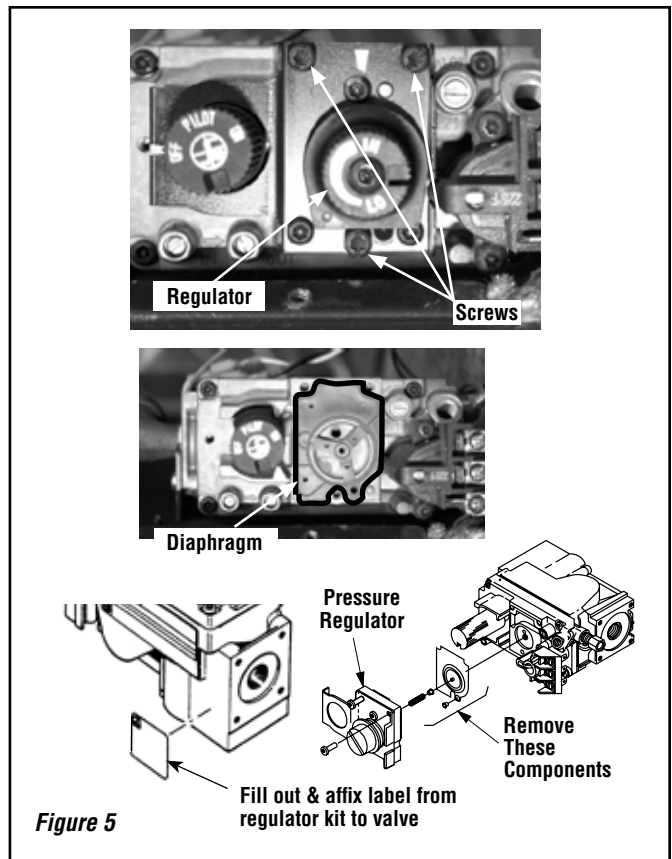

Figure 5
Step 3. Using a T20 Torx Bit or flat screwdriver, install the Nova SIT NG Regulator (included in this kit) using the 3 new screws provided as shown in *Figure 5*.